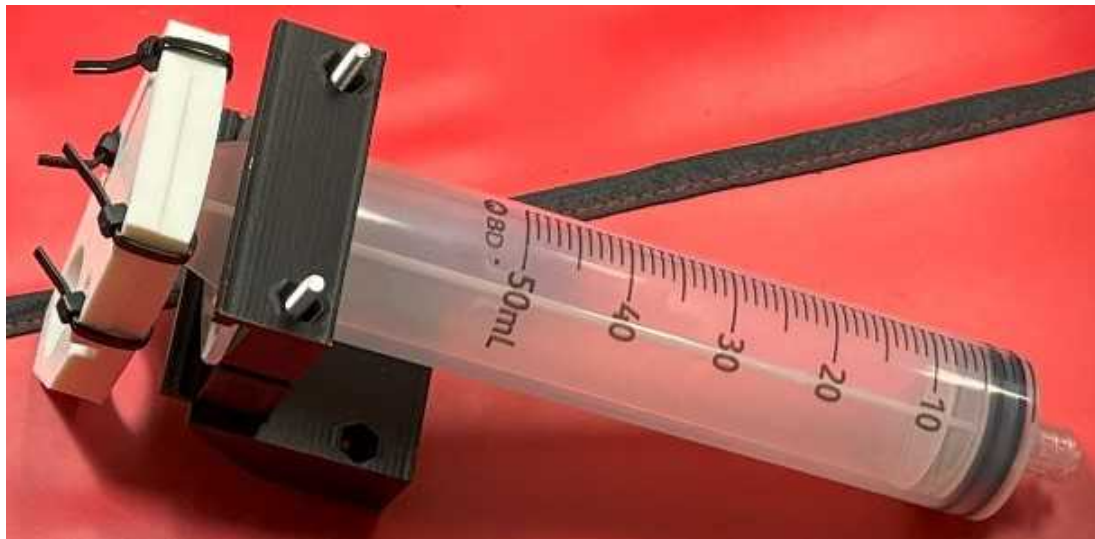

Figure 12. 3-D printed parts #4 and #6 attached to the syringe barrel.
- 14.6 Attach 3-D printed part #4 and #6 around the syringe, making certain the syringe barrel numbers are facing toward 3-D part 6 (Figure 12). Use (2) M3 machine screws and (2) M3 hex nuts to secure 3-D printed parts #4 and #6 together.